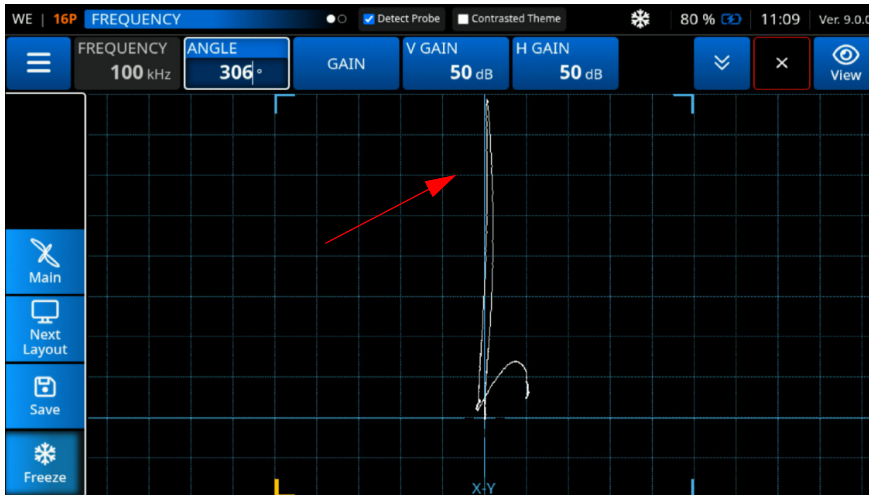

Figure 3-29 Adjust the Angle Setting
- Using the **Angle** setting and the knob, adjust the EDM notch signal into a vertical position (See Figure 3-29 on page 66).